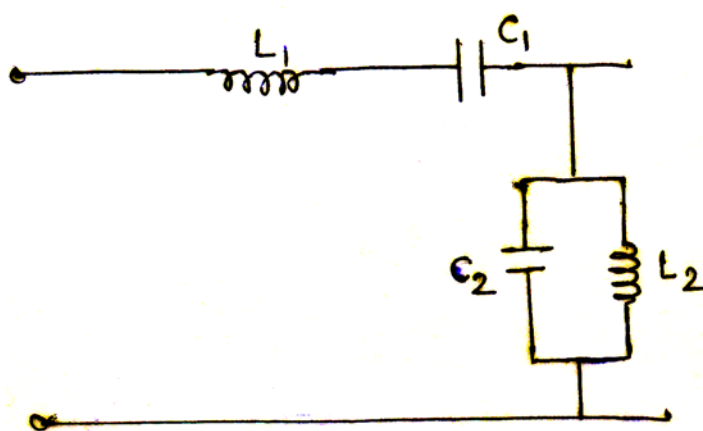

Figure 4 Q. 6(c)
- c) Identify the zeros of transmission for the network shown in figure 4. 4